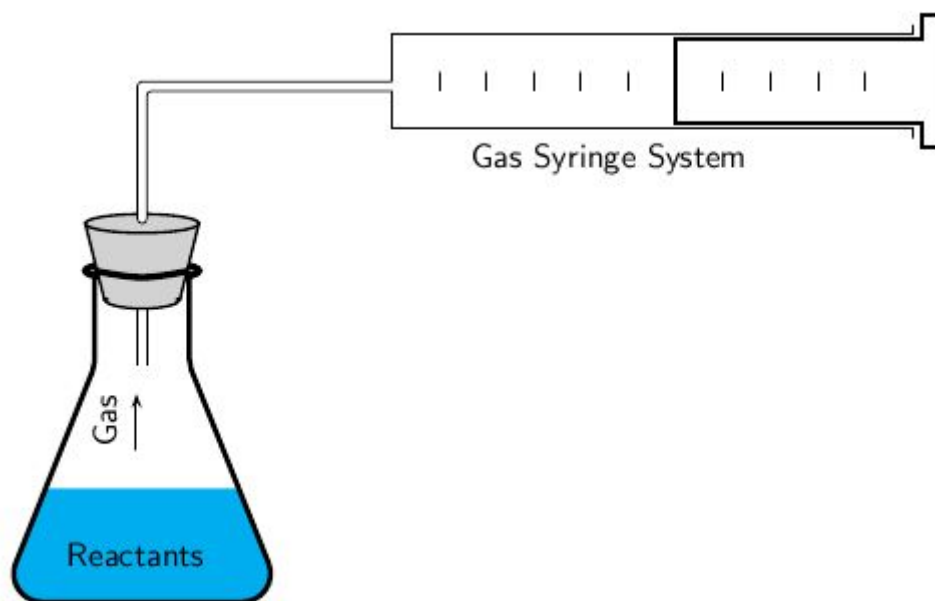
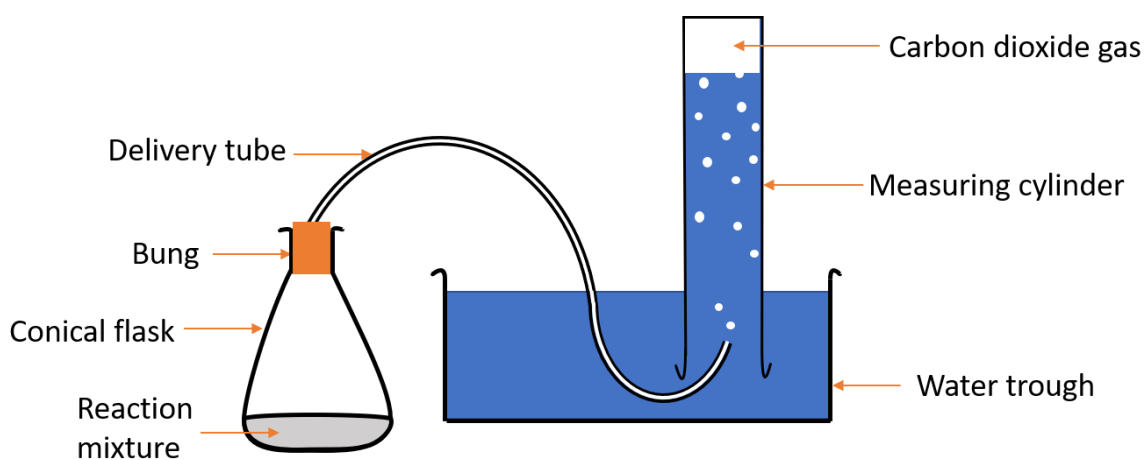

Figure 1: Experiment setup
Figure 2: Experiment setup
1. Set up the apparatus as shown in figure 1 or figure 2. If using a gas syringe, support it horizontally in a clamp stand and attach the delivery tube. If using a measuring cylinder, fill a trough and measuring cylinder with water then turn the measuring cylinder upside-down in the trough. Insert the delivery tube into the measuring cylinder.